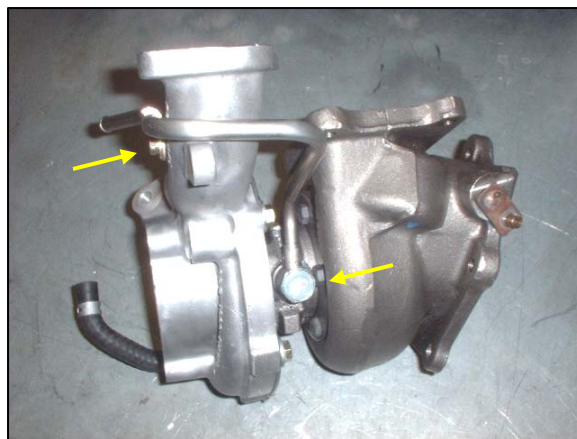

Fig. 28
31. Install the longer OE hard water line on the back of the turbocharger's center housing. Use the OE banjo bolt and 2 new 14mm copper crush washers supplied with the kit. Leave the banjo bolt loose initially. The water line wraps around the compressor housing outlet and is secured with one bolt into the housing. Install this bolt and torque to 6-8 lb-ft (72-98 lb-in / 8-11 N-m). Then tighten the banjo bolt to 26-36 lb-ft (35-49 N-m). Bolt locations are shown by arrows in *Fig. 28*. The actuator is not shown for clarity (2 bolts, 10mm socket, 22mm socket).